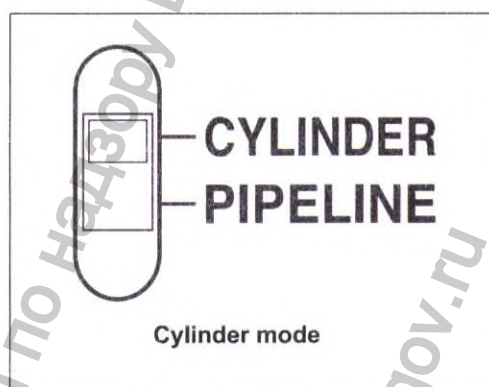

Figure 5.1
See the operation workflow in Figure 5.1 below. Follow each step of the workflow for using the endoscopic CO₂ regulation unit.
- 1 Set the gas source selection switch on the rear panel to the "Cylinder" mode. (See Figure 5.1)